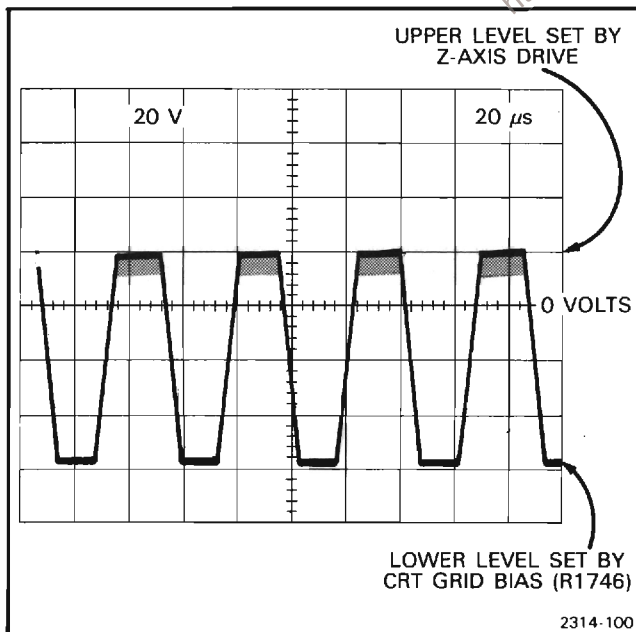

Figure 4-10. Typical waveform at junction of R1811 and CR1747 on the High Voltage circuit board.
2. Check that the waveform at the junction of R1811 and CR1747 is similar to that shown in Figure 4-10.
If the waveform is not like that of Figure 4-10, check the Z-Axis Amplifier by increasing the A INTENSITY setting; the positive level of the square wave should also increase until the Intensity Limiter limits the Z-Axis drive. Then check the Grid Bias circuit by changing the setting of CRT Grid Bias adjustment R1746; the negative level of the square wave should also change.